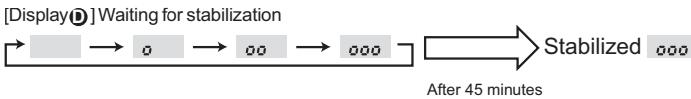

Fig. 8-3
- ③ Press **FILTER** (↔) button to confirm. (Fig. 8-3)